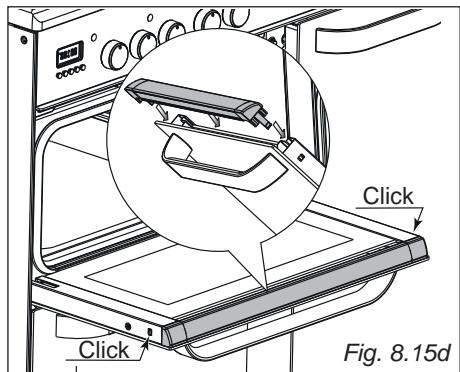

Fig. 8.15d
- Gently push the glass retainer back into place. You should be able to hear the tabs on both sides click as they lock the glass retainer in (fig. 8.15d).